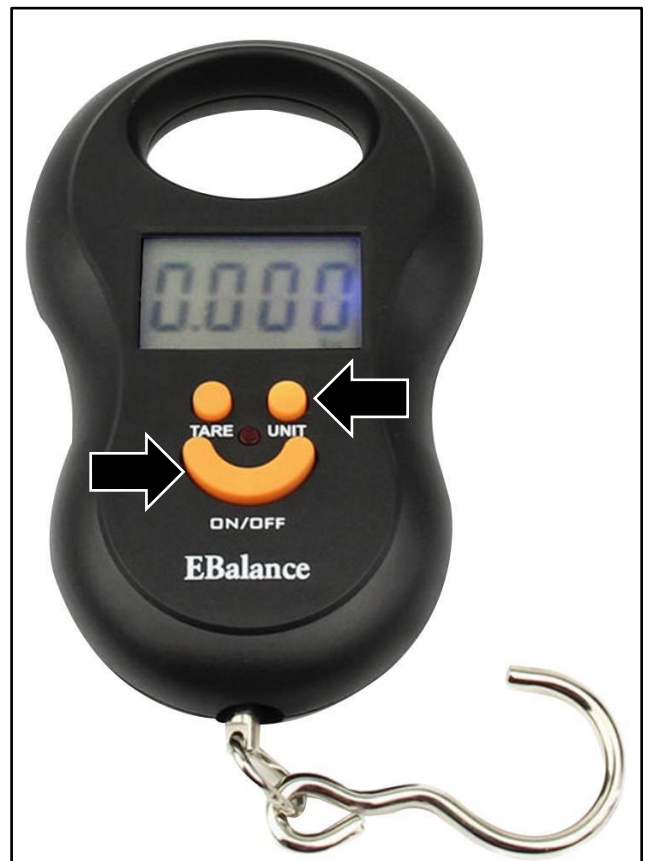

Figure 1
1. Switch the weighing scale on and set to "Kg" with the "UNIT" button (refer to Figure 1).